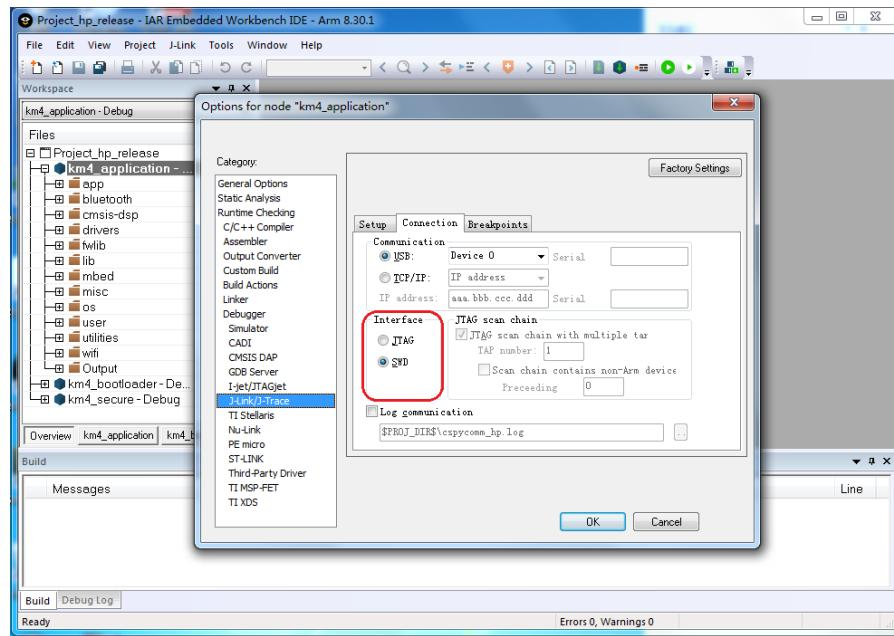

Fig6-14 J-Link interface setup
- b) Click Debugger > J-Link/J-Trace > Connection > Interface Fig6-14 shows.